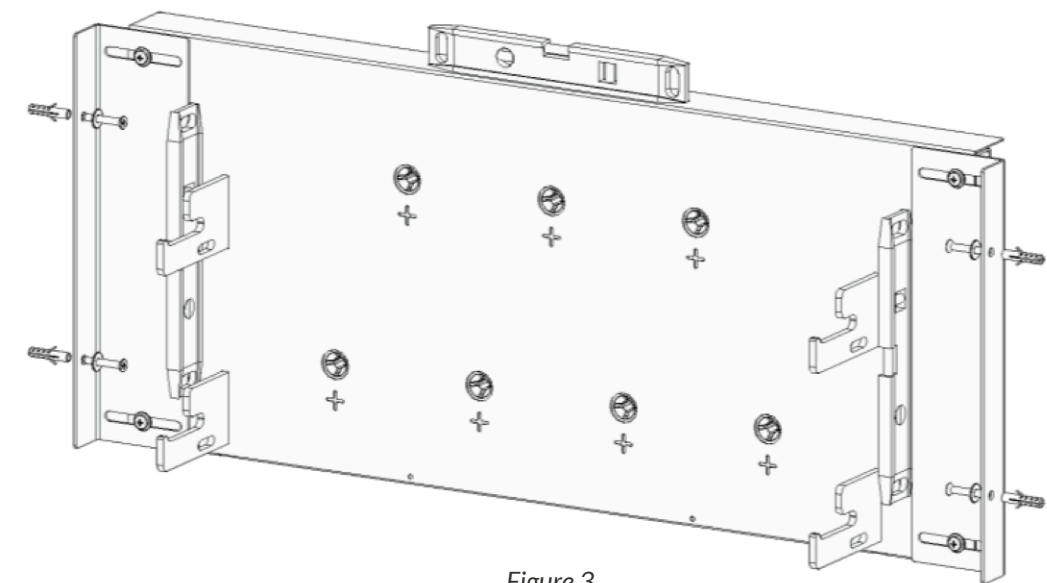

Figure 3
a) Place the Rear Structure on the rear wall and, with the help of a level, mark the center of the holes on the masonry. Remove the Rear Structure and make the four holes on the side using a $\text{\O}6\text{mm}$ (Concrete) Wídea drill bit. Then, insert the included nylon anchors, position the Rear Structure in place, connect the wires according to the type of controller (use high-temperature wire), level the Rear Structure, and secure it with the screws and washers, as shown in Figure 3. Be careful to avoid damaging the electrical wiring during installation.